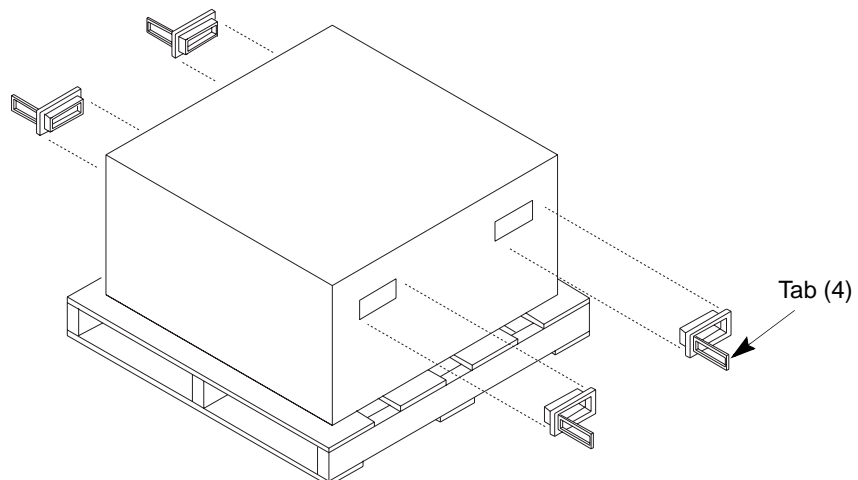

Figure 9-5 Installing the clips on the shipping carton
8. Insert the four plastic clips into the openings in the sides of the carton and press the tabs into the handle, as shown in Figure 9-5.